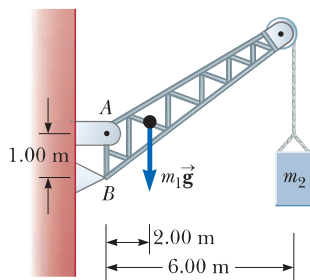

Figure P12.47
47. A crane of mass $m_1 = 3\,000$ kg supports a load of mass $m_2 = 10\,000$ kg as shown in Figure P12.47. The crane